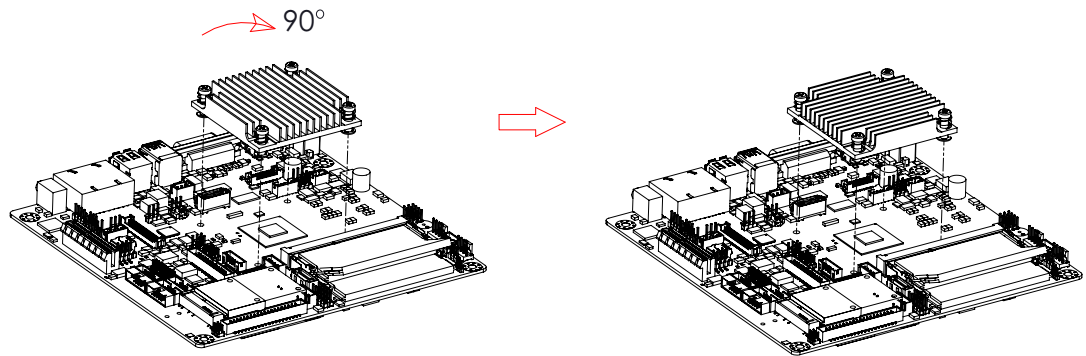

Figure 2.1 Installing or Rotated Angle of Heatsink to Make the Grooves Parallel to Rear IO Panel/
- Figure 2.1 Installing or Rotated Angle of Heatsink to Make the Grooves Parallel to Rear IO Panel/